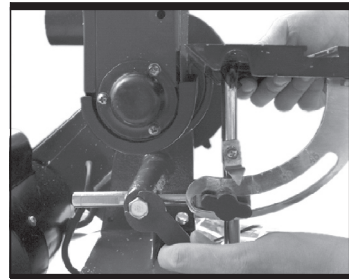

Fig 11-3
- 3) Tighten the hex set screw with the spanner (g-2). (Fig 11-3)